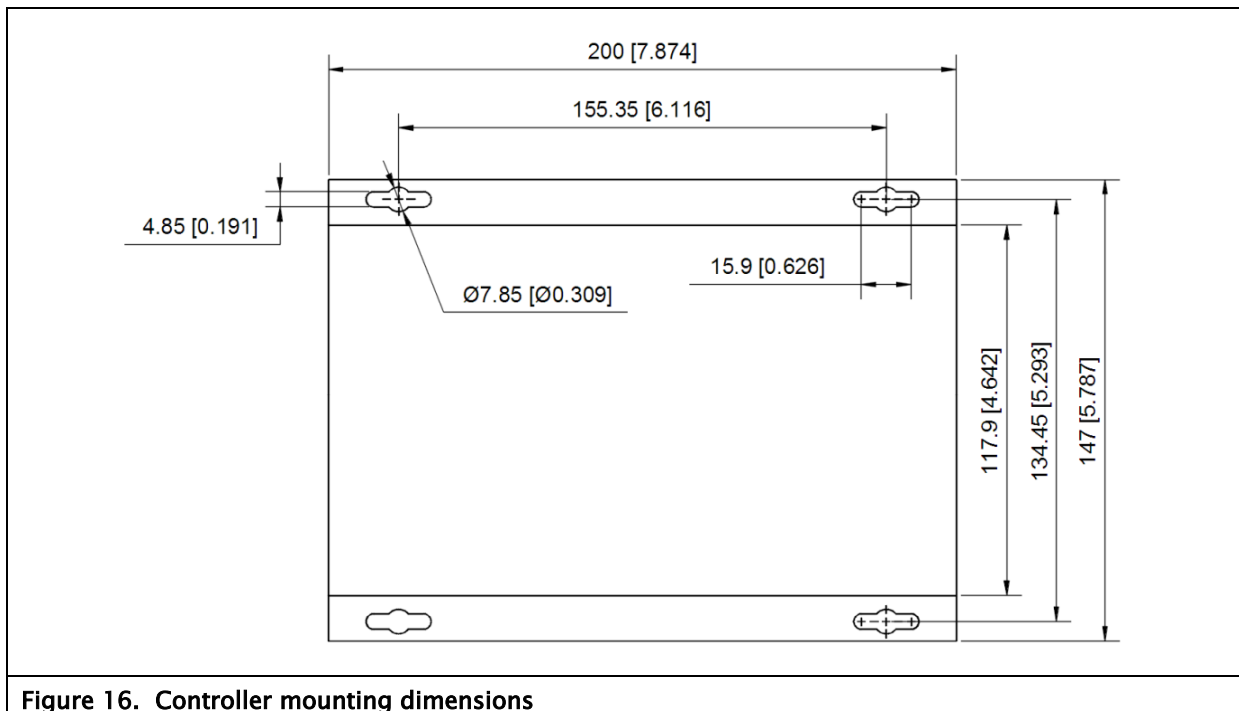

Figure 16. Controller mounting dimensions
3. Mount the assembled controller to a rigid frame with four M6 bolts in the controller mounting holes shown in Figure 16.